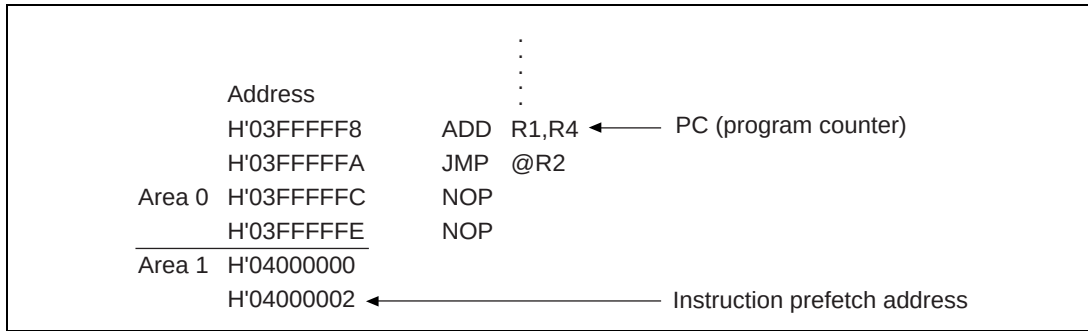

**Figure F.1 Instruction Prefetch**
Figure F.1 presupposes a case in which the instruction (ADD) indicated by the program counter (PC) and the address H'04000002 instruction prefetch are executed simultaneously. It is also assumed that the program branches to an area other than area 1 after executing the following JMP instruction and delay slot instruction.